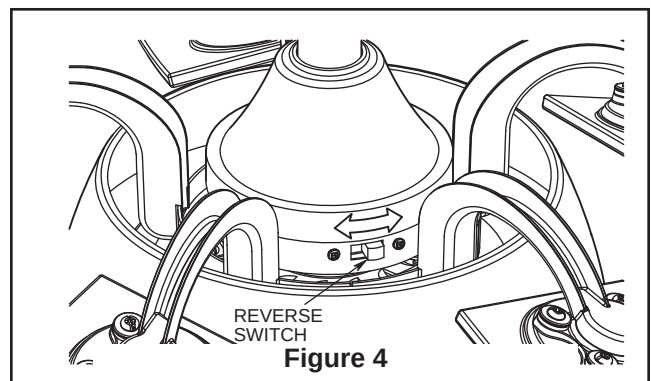

Figure 4
- ☐ 4. If airflow is desired in the opposite direction, turn the fan off and wait for the blades to stop turning. Slide the reverse switch on top of motor assembly to the opposite position and turn fan on again (Figure 4).